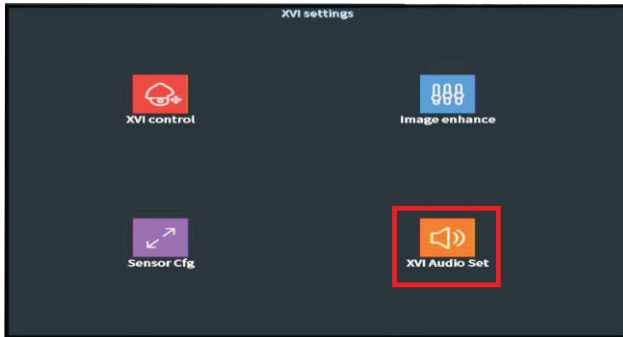

Figure 4. Click on XVI Audio Set.
4. On the XVI settings, Click on **XVI Audio Set**. See Figure 4.